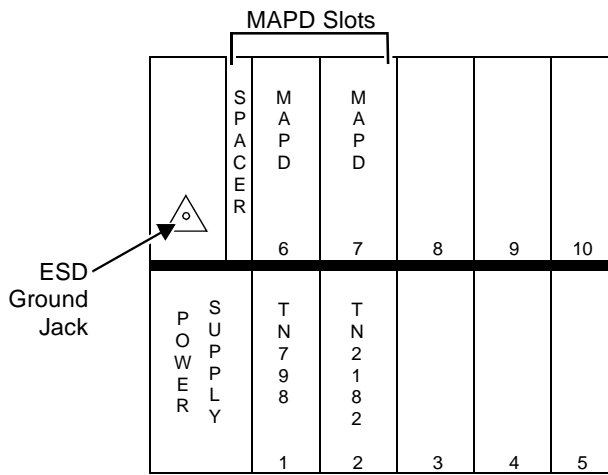

Figure 2-2. MAPD System in a DEFINITY ProLogix Carrier
- For a MAPD system being installed in an existing switch, three contiguous slots in a switch carrier are required to house the MAPD system (slots 16 to 18 as shown in Figure 2-2, “MAPD System in a DEFINITY ECS System Carrier,” and slots 6, 7, and the spacer as shown in Figure 2-3, “MAPD System in a DEFINITY ProLogix Carrier”). See Appendix A “PBX Carrier Configuration Worksheets,” for carrier worksheets.